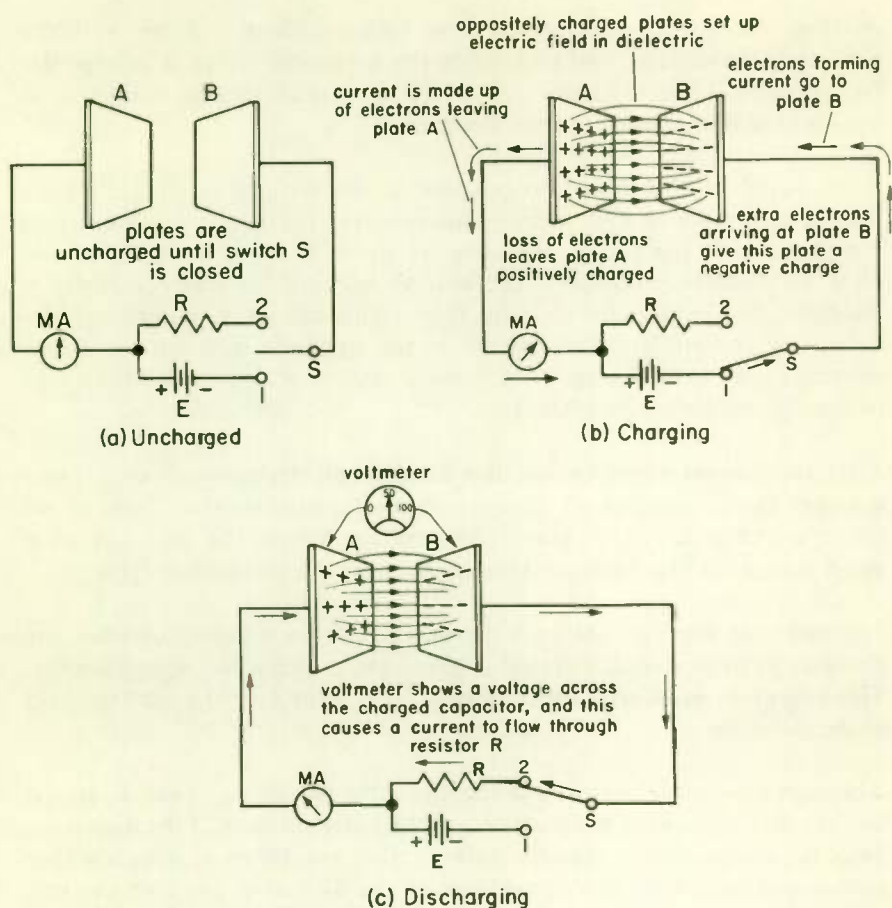

Fig. 38 The charge and discharge of a capacitor.
How does a capacitor work? One way to find out is to study the movement of electrons during the charge and discharge periods. The series circuit of Fig. 38(a) consists of a simple capacitor, a battery, a zero-center milliammeter, a single-pole double-throw switch, and a resistor.
When the switch is closed to position 1, as shown in Fig. 38(b), the battery voltage E starts to charge the capacitor. The positive terminal of the battery is connected through the milliammeter to plate A , and the negative terminal of the battery is connected to plate B .
If the switch is now closed to position 2, the battery is replaced by a resistor as shown in Fig. 38(c). This removes the battery voltage from the plates, and the excess electrons on plate *B* are able to return to plate *A* through the resistor. The voltage between the charged plates is the force that causes this electron flow. This causes a momentary deflection of the milliammeter needle in the opposite direction as excess electrons from plate *B* surge back through resistor *R* and the milliammeter to deposit themselves on plate *A*.
After the current surge ceases, the number of electrons on each plate is equal to the number of protons on that plate, so that there is no longer a charge on either plate. The voltage across the plates is once again zero, as in Fig. 38(a), and the capacitor is therefore *discharged*.
1. When the capacitor of Fig. 38 is charging, electrons move from plate *A* to plate *B*. At the same time, protons (*do*) (*do not*) move from plate *B* to plate *A*.
2. The greater the number of excess electrons on a plate of a capacitor, the greater the charge will be. You could make two modifications to the simple capacitor arrangement of Fig. 38 to increase the charge. You could (a) _____ the battery supply voltage and (b) _____ the area of the plates.